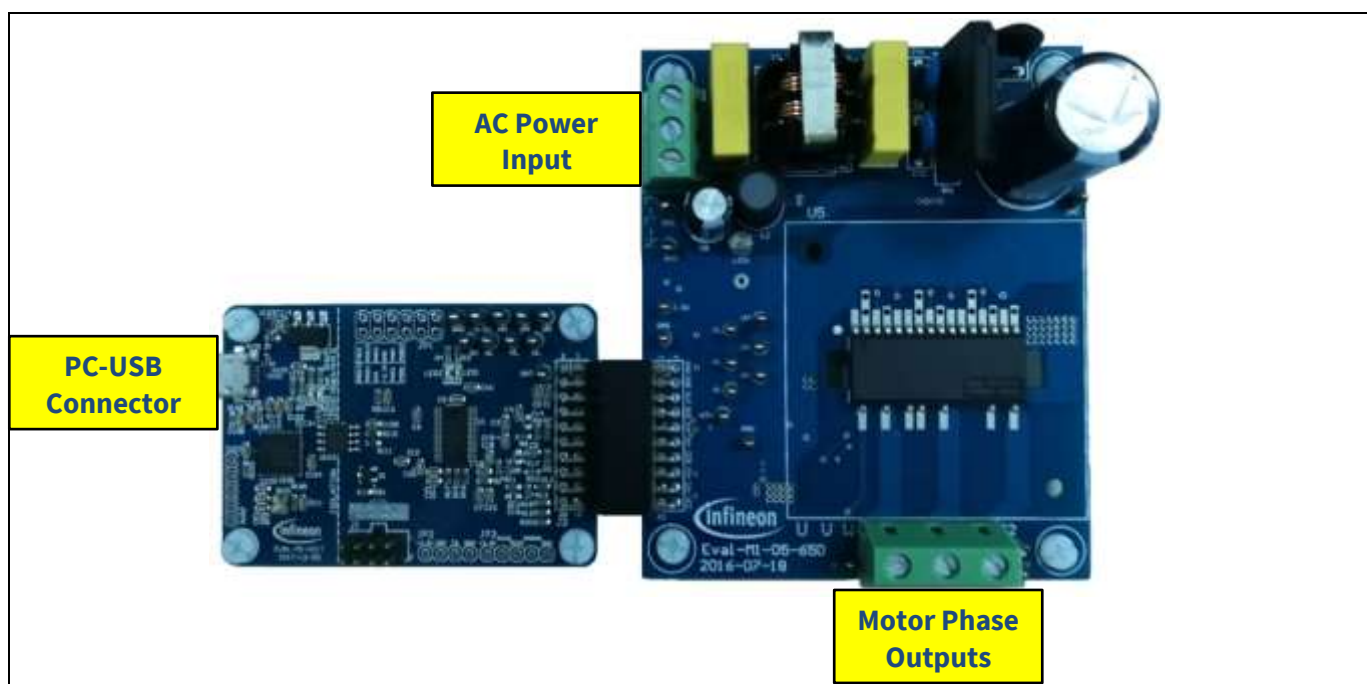

Figure 5 System connection example using EVAL-M1-101T and EVAL-M1-05-65D
3. Connect EVAL-M1-101T's M1 20-pin interface connector (J2) to power board (For example EVAL-M1-05-65D, see Figure 5).